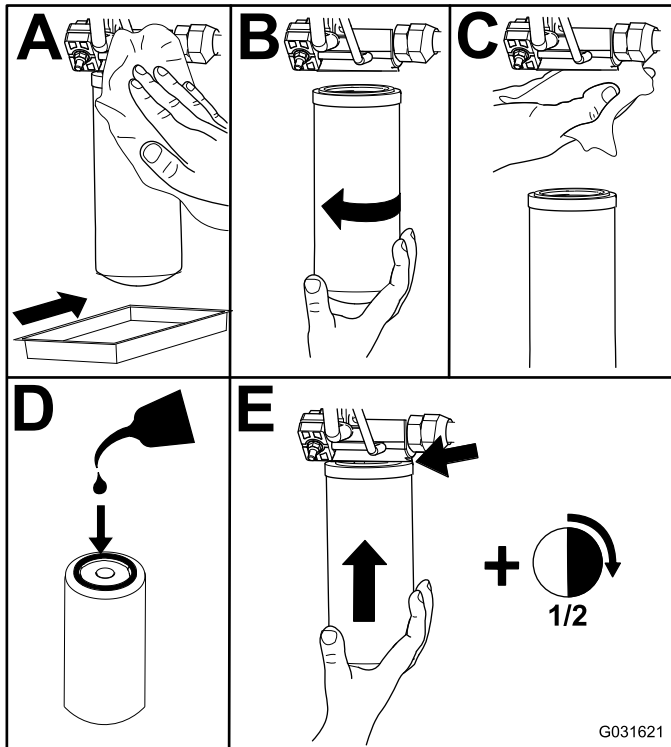

Figure 117
2. Replace the hydraulic filters (Figure 117).